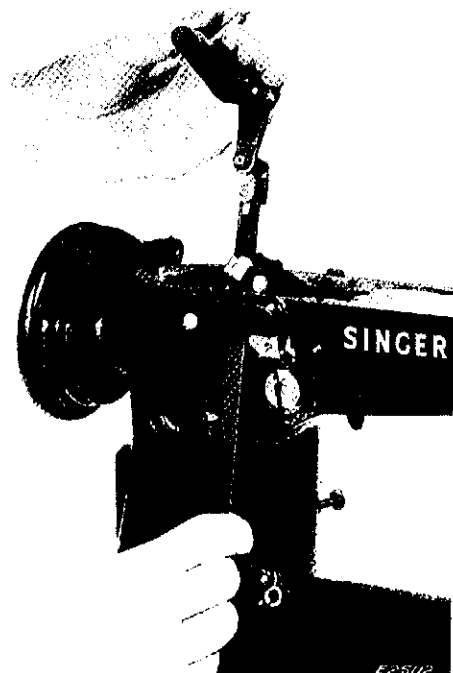

Fig. 77. Step 3
7. Again pivot pitman clockwise (90 degrees) while driving link is above arm, as shown in **Fig. 77**.
1. Hold frame in left hand with driving link aligned with pitman and collar on link toward motor side of machine. Then insert pitman containing crank through top and side of machine arm as shown in **Fig. 77**.